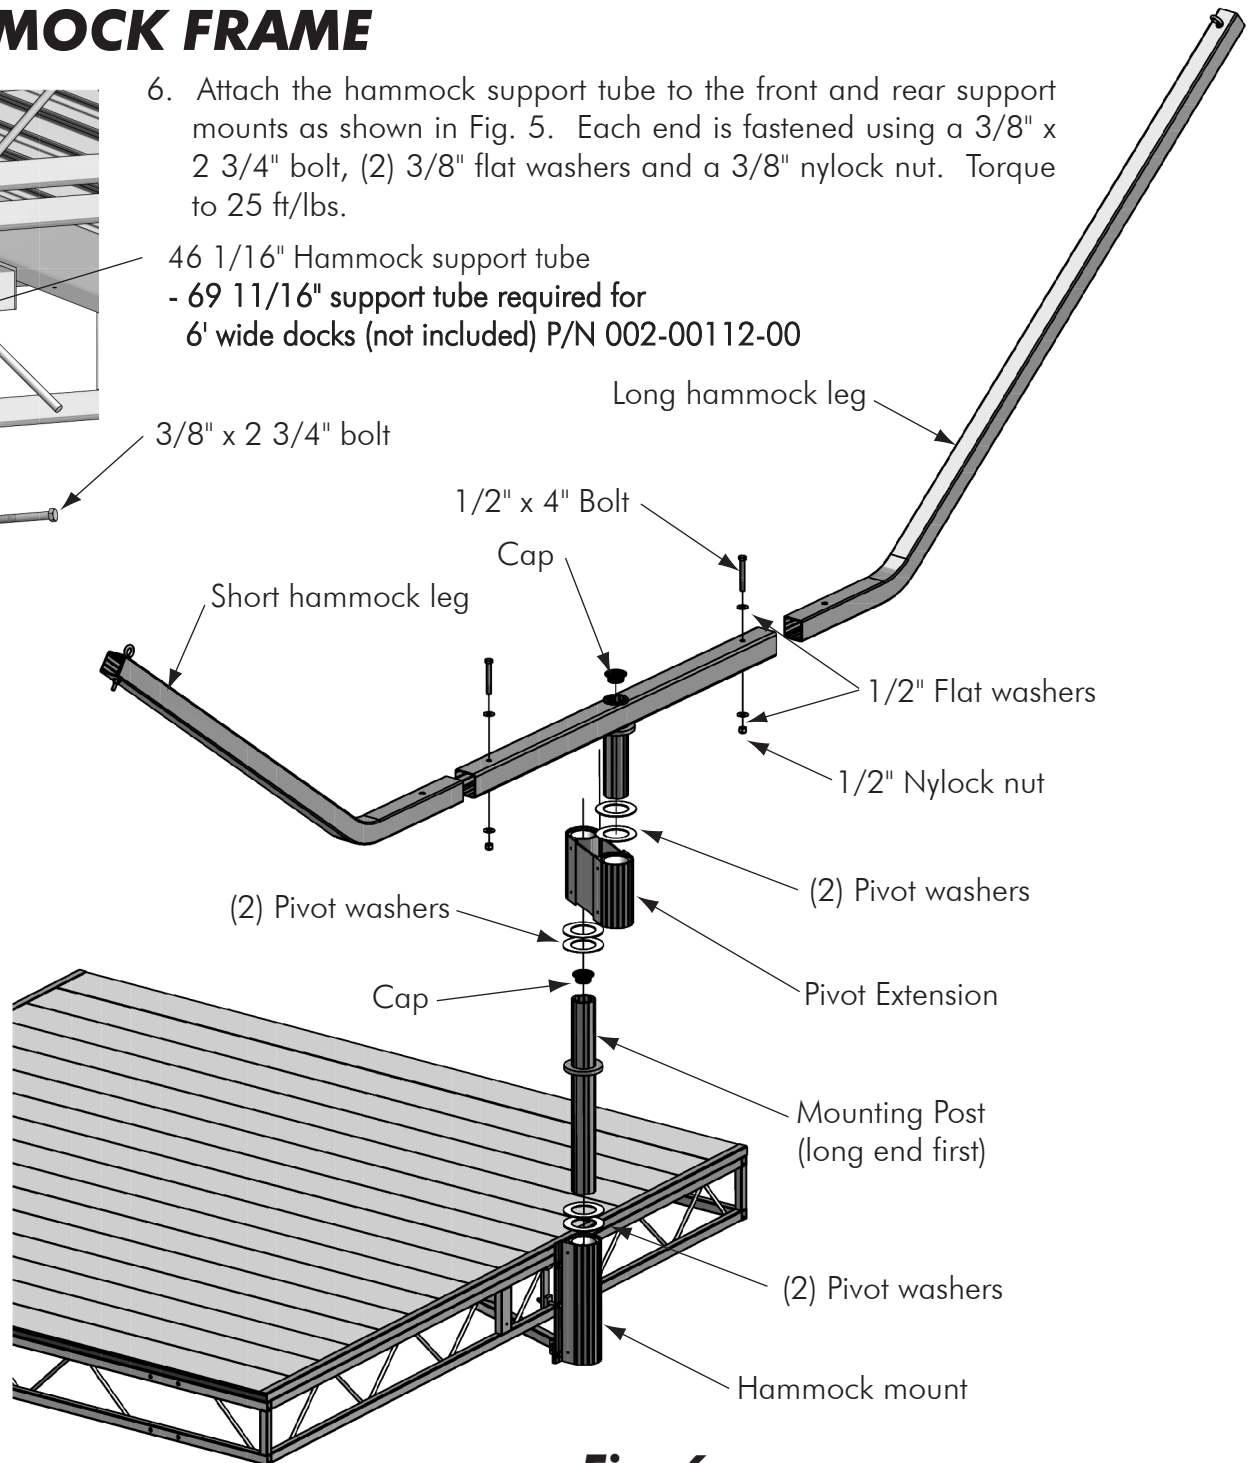

Fig. 6
7. Place (2) pivot washers on the hammock mount and insert the hammock mounting post (long end first). The post should be flush with the bottom of the hammock mount. Slide (2) pivot washers of the mounting post and down to the welded ring. Slide the pivot extension on the mounting post. Place two more pivot washers on top of the opposite sleeve of the pivot extension. The round tube of the center frame is inserted through the two pivot washers and into the pivot extension. Place the two caps in tubes as shown in Fig. 6.
8. Insert a canopy leg into each end of the center frame and line up the holes. Fasten each using a 1/2" x 4" bolt, (2) 1/2" flat washers and a 1/2" nylock nut. Torque to 35 ft/lbs. See Fig. 6.